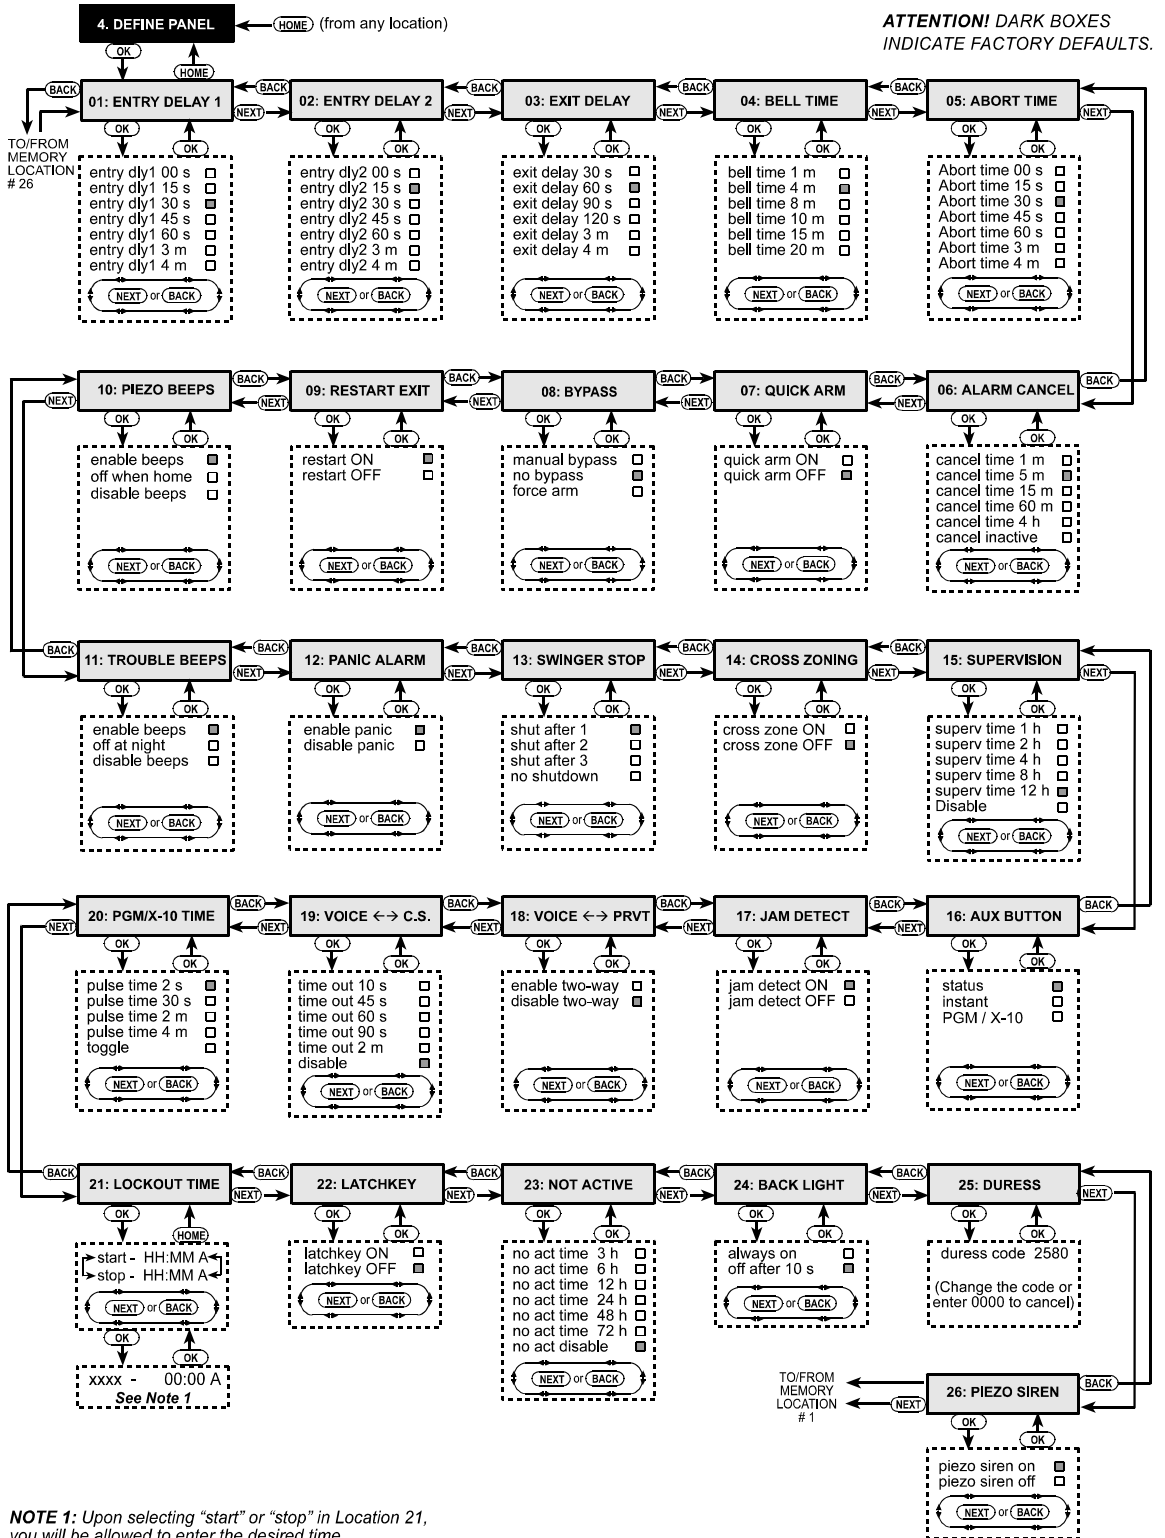

Figure 4. DEFINE PANEL Flow Chart
Should you wish to obtain an overall view of the entire programming process, refer to the programming chart in Figure 4. You may even use the chart as your only guide along the programming process, instead of going through the written step-by-step procedure.
- Click <NEXT> or <BACK> until you reach the memory location you wish to access (see rectangles 01 to 26 in Figure 4).